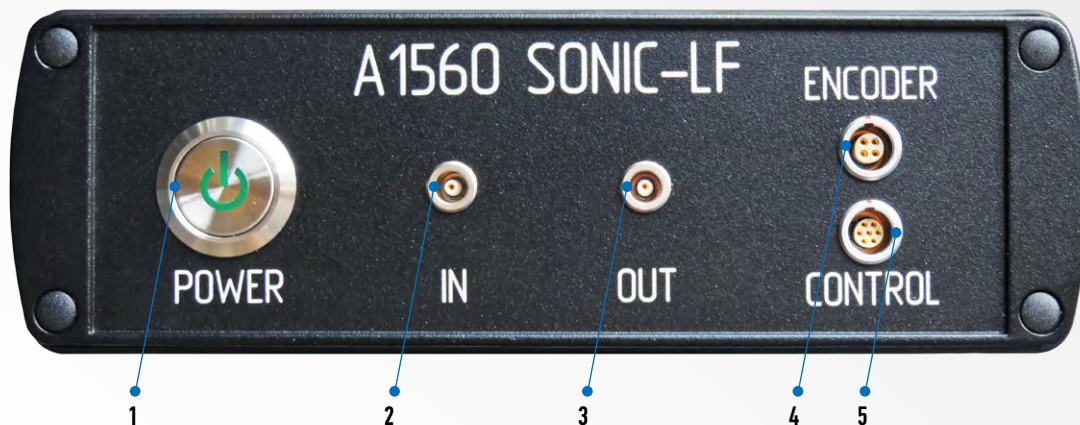

FIGURE 1. A1560 FRONT PANEL
To power the instrument on, press the **POWER** button (Fig.1 Pos.1) for a half-second. The state indicator inside the button lights up immediately.
The receiving element of a double-crystal transducer or a single-crystal transducer equipped with a LEMO 00 series plug can be connected to the IN socket (Fig.1 Pos.2) of the A1560. Connect the transducer cable to the A1560 by inserting the plug of the cable into the socket. If you need to disconnect the cable, carefully grasp the plug by the knurled metal outer shell and pull it straight backwards.
The transmitting transducer or transmitting element of a double-crystal transducer equipped with a LEMO 00 series plug can be connected to the **OUT** socket (Fig.1 Pos.3) of the A1560. Connect the transducer cable to the A1560 by inserting the plug of the cable into the socket. If you need to disconnect the cable, carefully grasp the plug by the knurled metal outer shell and pull it straight backwards.
When enabled in the A1560 configuration, a scanning path sensor or an encoder attached to the **ENCODER** (Fig.1 Pos.4) socket can initiate a pulse-acquisition sequence on position/angle change. To connect the plug of an encoder cable to the A1560, first make sure the plug has its red positioning mark pointing upward and matching with the positioning mark on the socket, then gently insert the plug of the cable into the socket. If you need to disconnect the cable, carefully grasp the plug by the knurled metal outer shell and pull it straight backwards.
**CONTROL** connector (Fig.1 Pos.5) is used in user-specific device variants that are out of the scope of the products described in this manual.
- A low battery charge is indicated by the blinking of the indicator inside the POWER button (Fig.1 Pos.1). When this happens, connect the A1560 to AC power via the included power supply unit as soon as possible to prevent deep discharge. Deep discharge can dramatically affect the battery's lifespan.